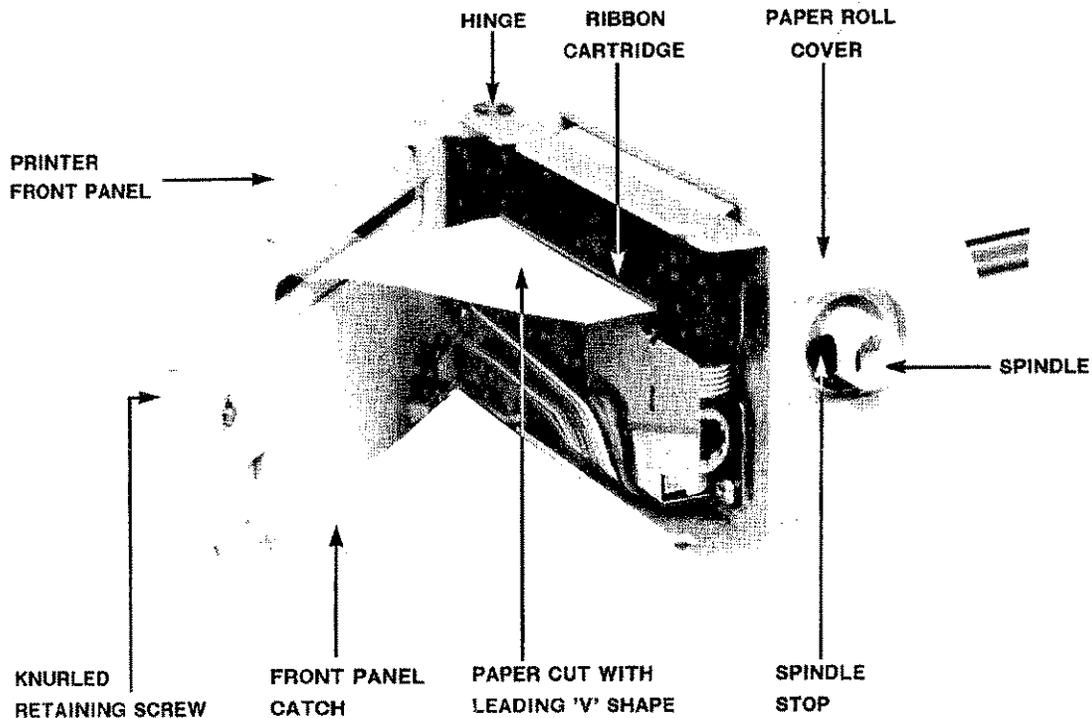

Figure 8-4 Internal Printer
Use the following procedure (see Figure 8-4) to fit a new roll.
6. Ensure that the end of the paper is cut clean and square or in a leading "V" shape (see Figure 8-4).
Use the following procedure (see Figure 8-4) to fit a new ribbon:
3. Gently push back the printer Front Panel Catch and open up the printer assembly as shown in Figure 8-4.